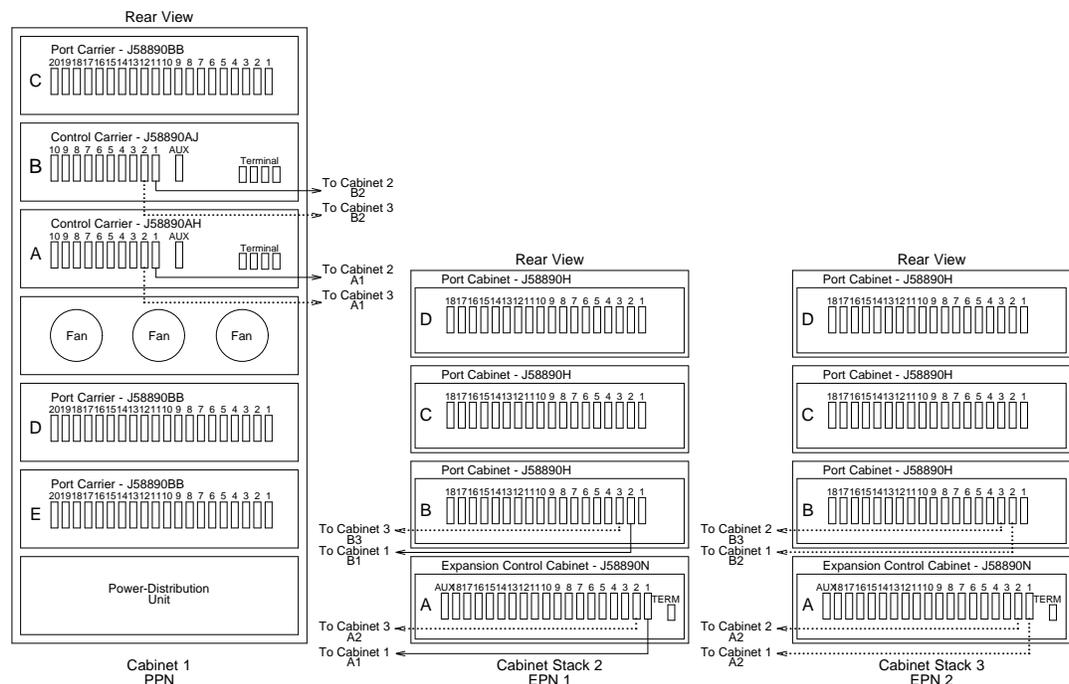
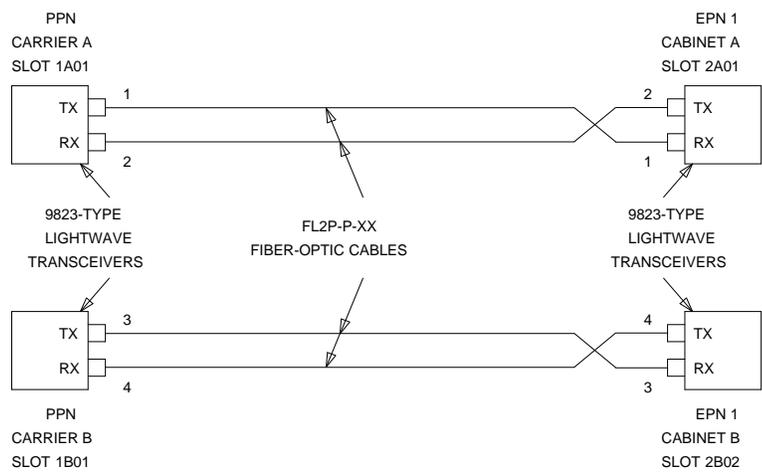
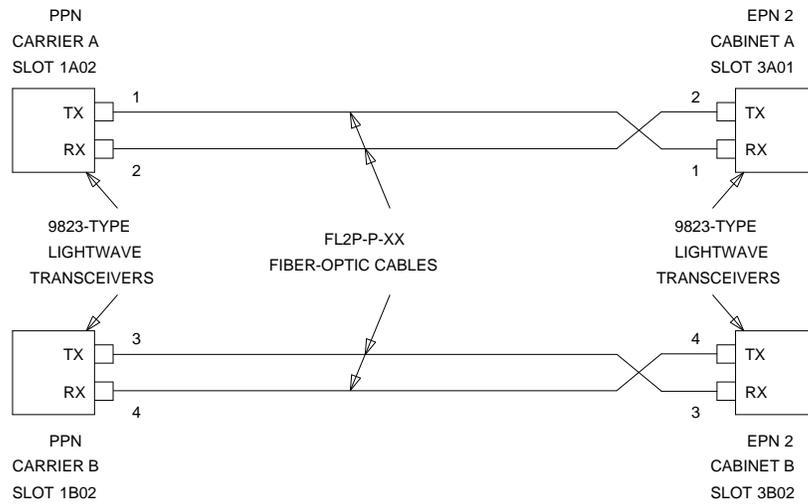
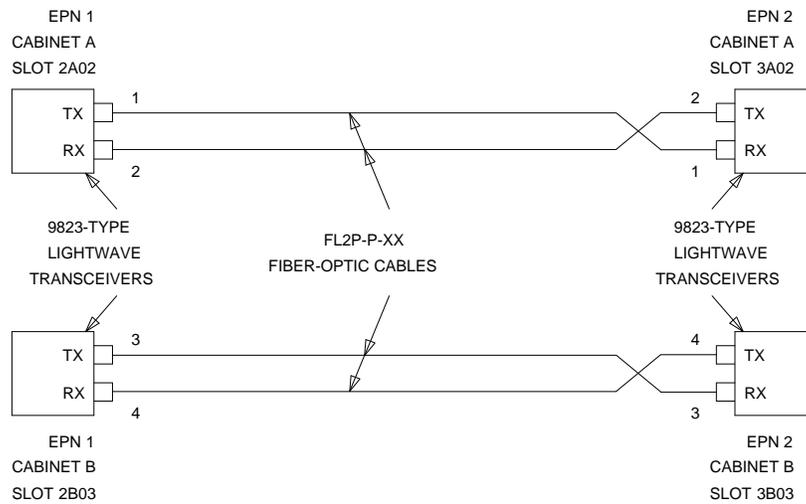

Figure 8-28. Critical-Reliability G3i V4 with Two or Three Port Networks
Figure 8-29. Fiber-Optic Connections PPN to EPN1
Figure 8-30. Fiber-Optic Connections PPN to EPN2
Figure 8-31. Fiber-Optic Connections EPN1 to EPN2
connector of a port network to the “RX” connector of its adjacent port network. For an example, refer to Figure 8-29.)
1. Behind control carrier A of the multicarrier PPN (see Figure 8-28 on page 8-60, Figure 8-29, Figure 8-30, and Figure 8-31):